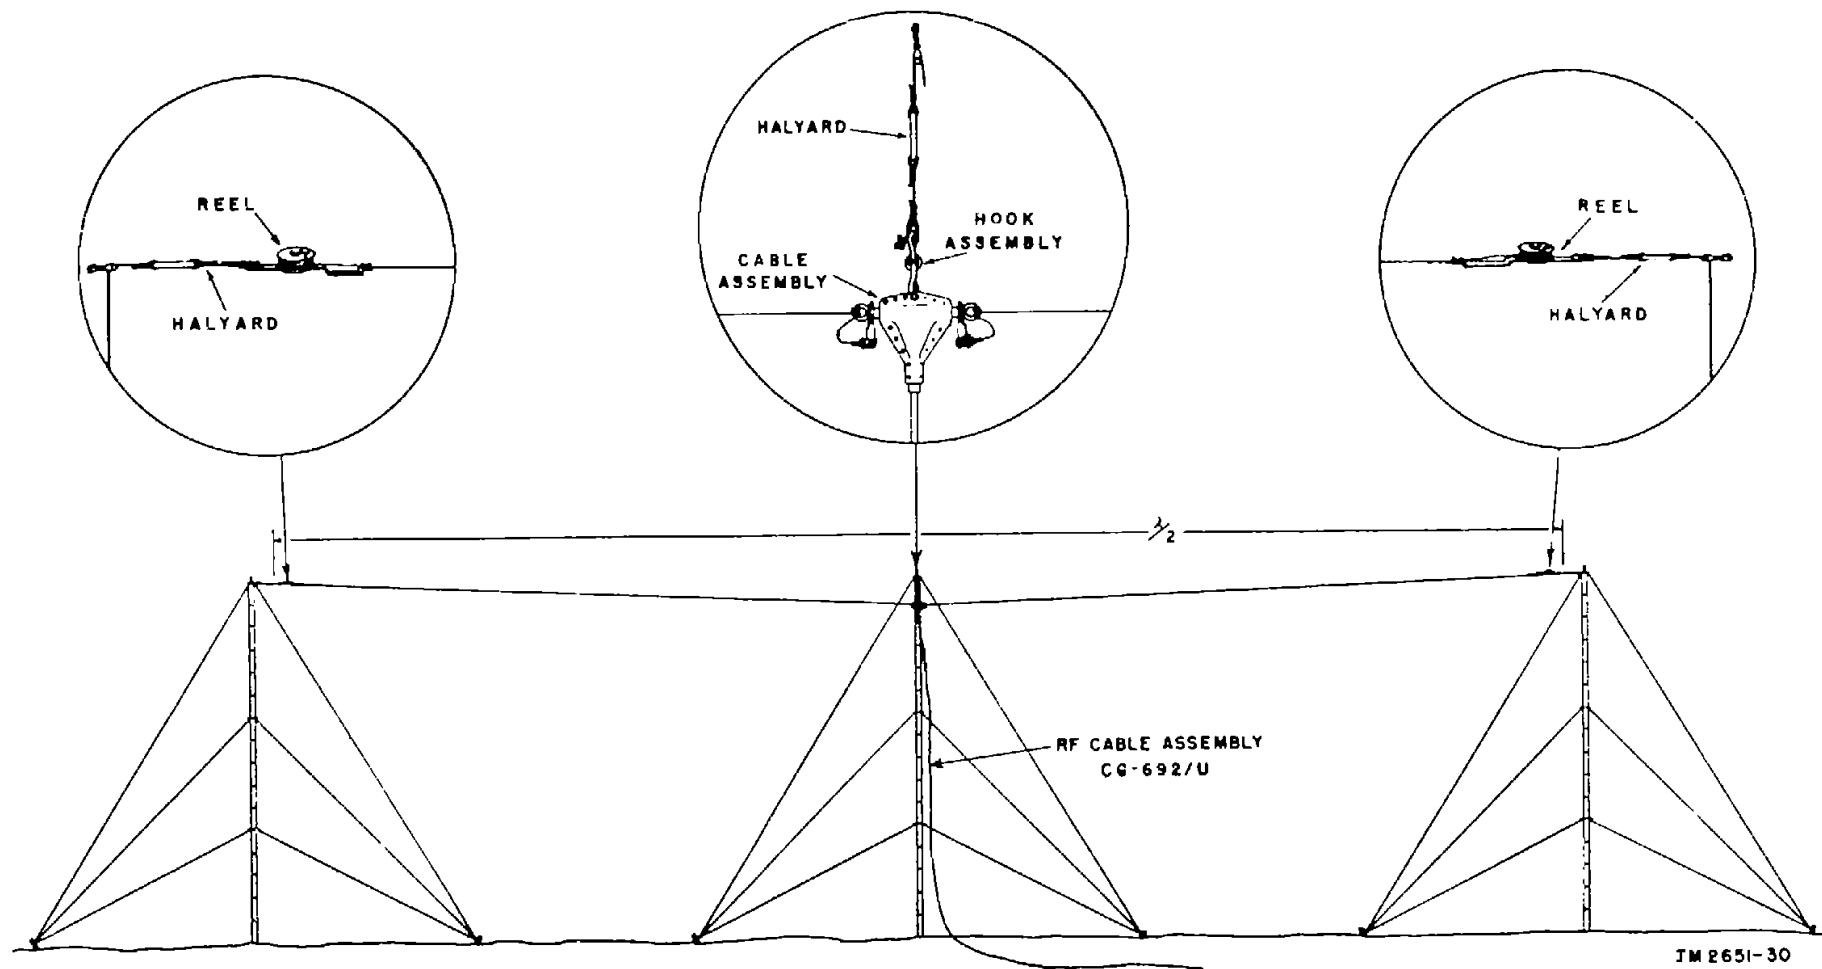

Figure 10. Center-fed Hertz (doublet) antenna, using Antenna Group AN/GRA-12.
c. Cord CG-357/U consists of 50 feet of Radio Frequency Cable RG-59A/U which has an impedance of 72 ohms. The cable is terminated with a male and female coaxial fitting in either end. It is used with the center-fed Hertz (doublet) antenna installation (fig. 10).